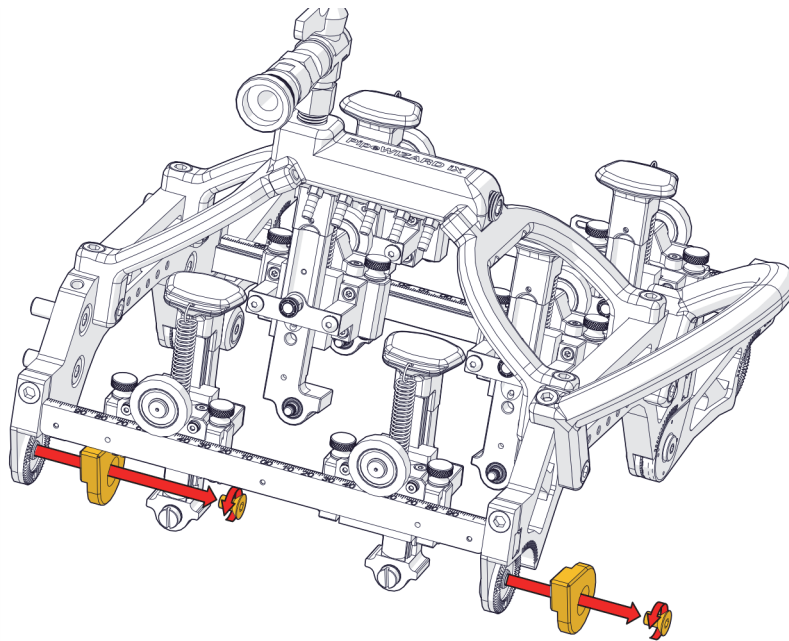

Figure 1-48 Removing the protective caps
1. Remove the two protective caps using a 6mm Hex driver (see Figure 1-48 on page 60).